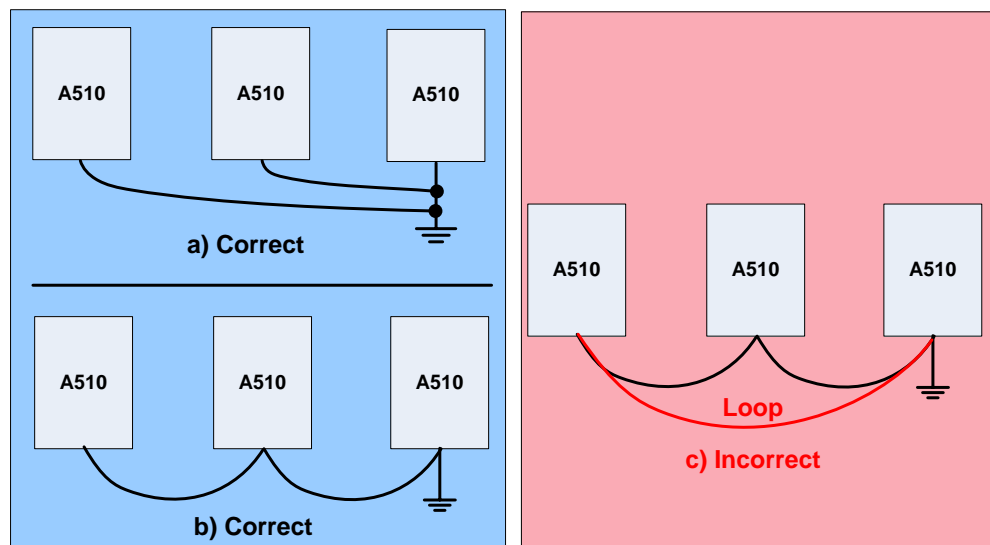

Fig. 3.12.1 Inverter Grounding
- Connect the ground terminal (E) to ground having a resistance of less than 100Ω.
- When using more than one inverter, be careful not to loop the ground wire, as shown below in Fig. 3.12.1.